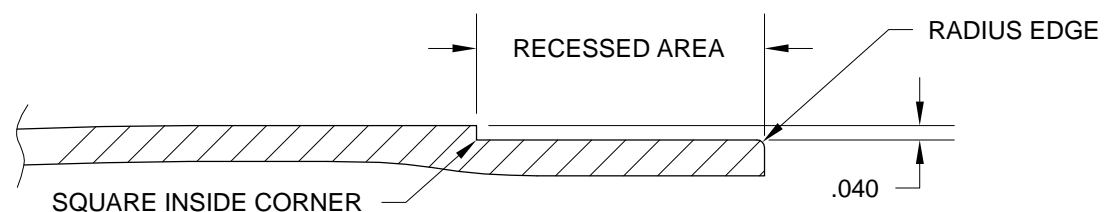
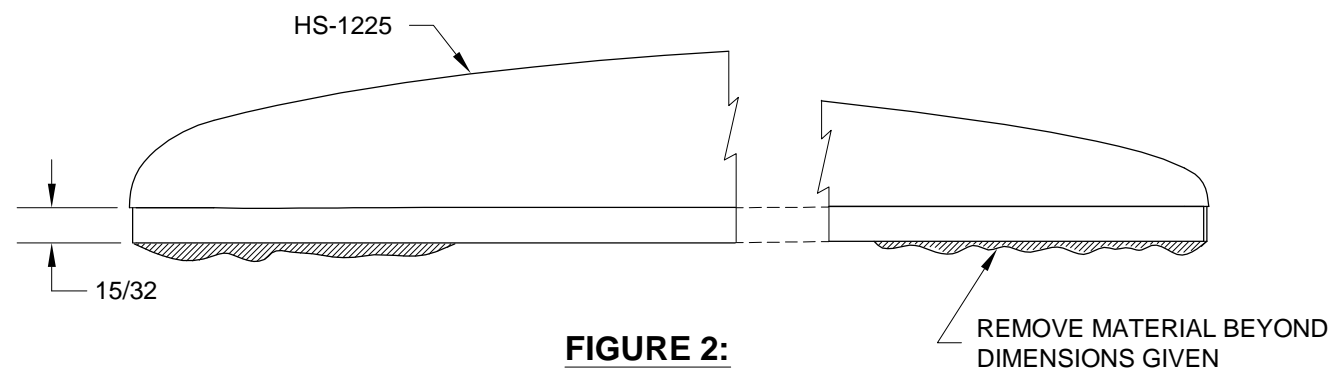

FIGURE 1:
FIGURE 2:
Step 2: Ensure that the molded recessed area of the tip fairing has a square inside corner as shown in Figure 1. Use a razor blade or file to remove any material that may have been left from the mold.
Step 3: Trim any extra material from the recessed area of the HS-1225 Stabilator Tip Fairing per the dimension given in Figure 2. A fine tooth hacksaw blade works well for aggressive material removal. For trimming anything less than 1/16th inch coarse 80 grit sandpaper on a wood block works very well. Radius inboard edge to fit into ribs as indicated in Figure 1.